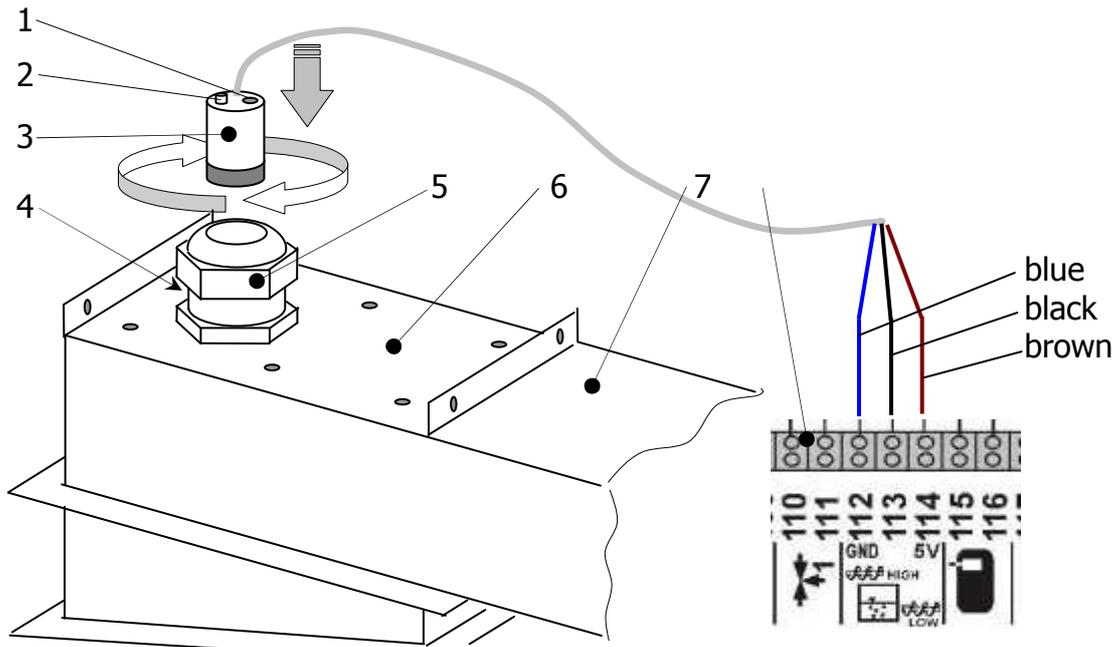
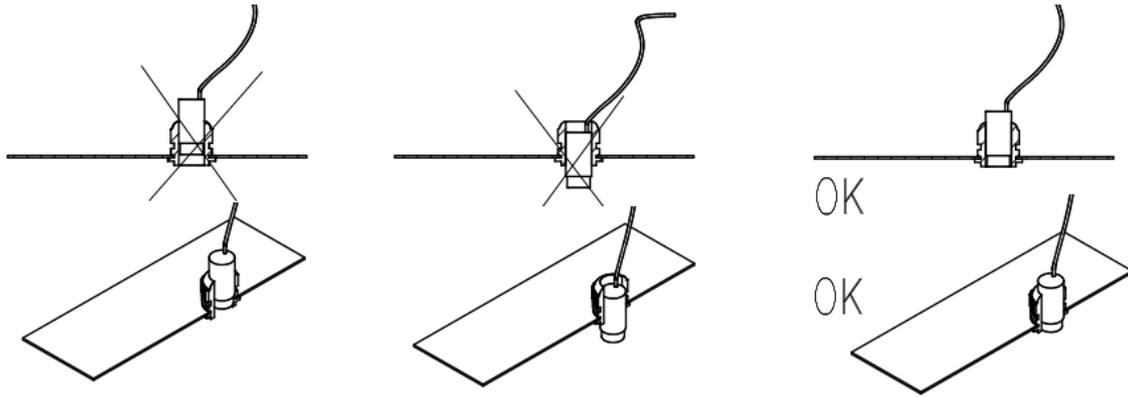

Fig.2.10. Capacitive sensor connection
Fig.2.11. Proper setting of the capacitive sensor in the mounting socket.
The operation of the capacitive sensor (chamber overfill) is described in the control cabinet's manual. Connect the sensor to the terminals in the cabinet in accordance with the following diagram (Fig. 2.10.).
The capacitive sensor (3, Fig. 2.10) is to be mounted in the plastic socket (1), screwed into of the cover of the clean-out (6) of the upper feeder (7). To do this, loosen the cap (5). Insert the sensor through the cap's opening, in accordance with the picture, until the face of the sensor aligns with the end of the damper (Fig. 2.11.). To do this, it is best to unscrew the fastening bolts and, after lifting the cover of the clean-out, see when the face of the sensor aligns with the socket. Next, holding the capacitive sensor in place, tighten the socket's cap to prevent the sensor from accidental movement.
After installing the sensor, adjust its sensitivity. To do this, with the control cabinet ON, screw in the adjustment screw (1, Fig. 2.10) until the indicator lights on (2, Fig. 2.10.). Then, turn the screw in the opposite direction until the indicator lamp switches off, and then make one more turn.